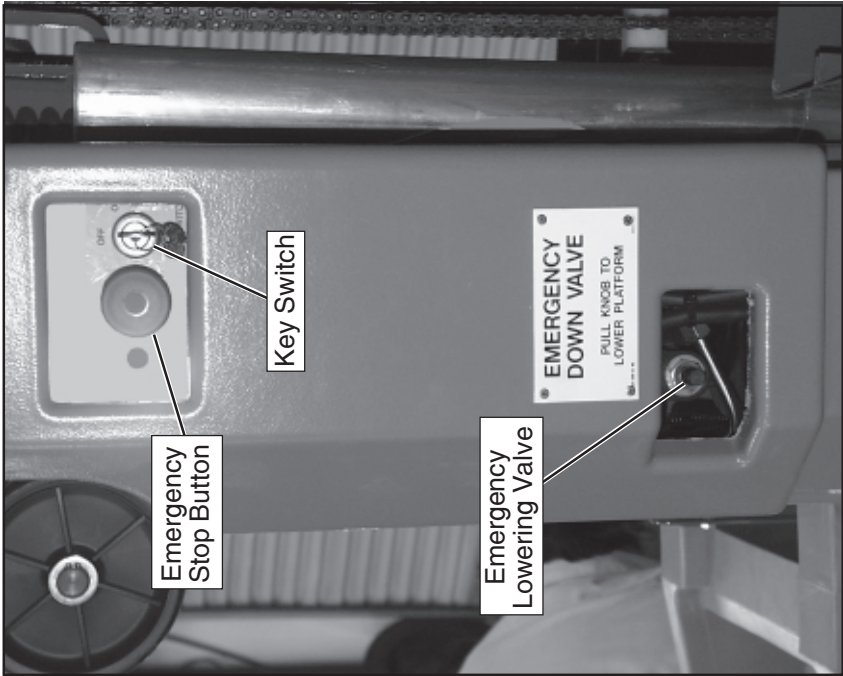

Figure 5: Base Controls
2. Turn Key to **ON**, Key Switch is located on the left side of the mast (Figure 5).
Ask a person on the ground to open the Emergency Lowering Valve to lower the platform. This valve is located through a cutout in the power unit cover on the left side of the mast (Figure 5).